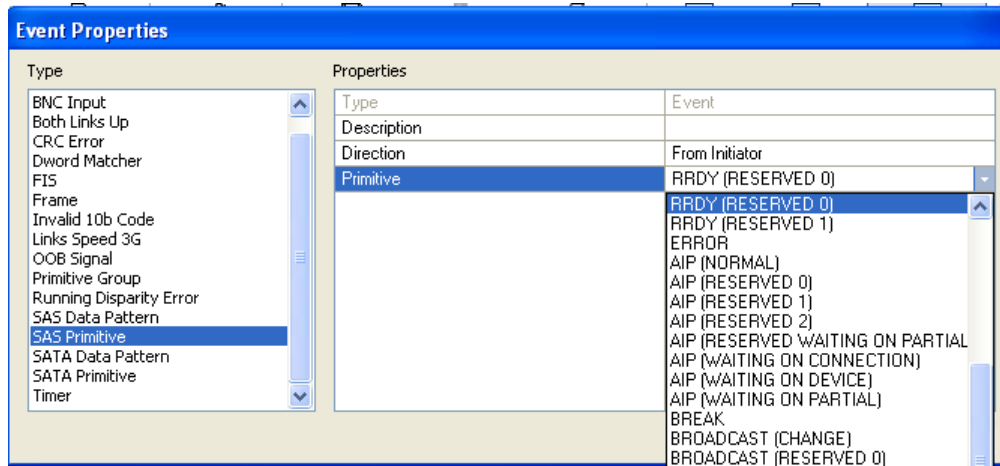

Figure 5.17 Example 3: Event Properties Dialog Box
- Step 5** The Event Properties dialog box appears (Figure 5.17). Choose **RRDY (Reserved 0)** as the second primitive you want to monitor.